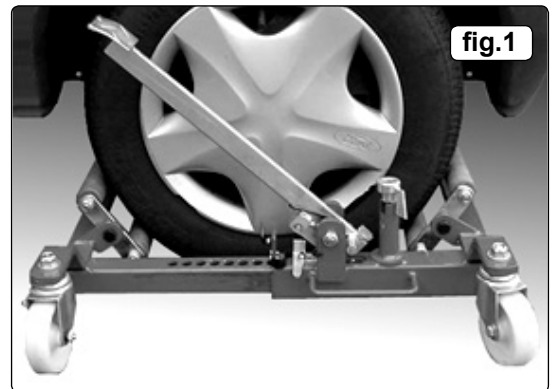

fig.1
4.3.1. Take hold of each side of the frame and expand the unit until it is wide enough to slide the rollers either side of the tyre. (See fig.1) Make sure that both sets of rollers are centred on the tyre then push the unit together again until each pair of rollers are in contact with it.